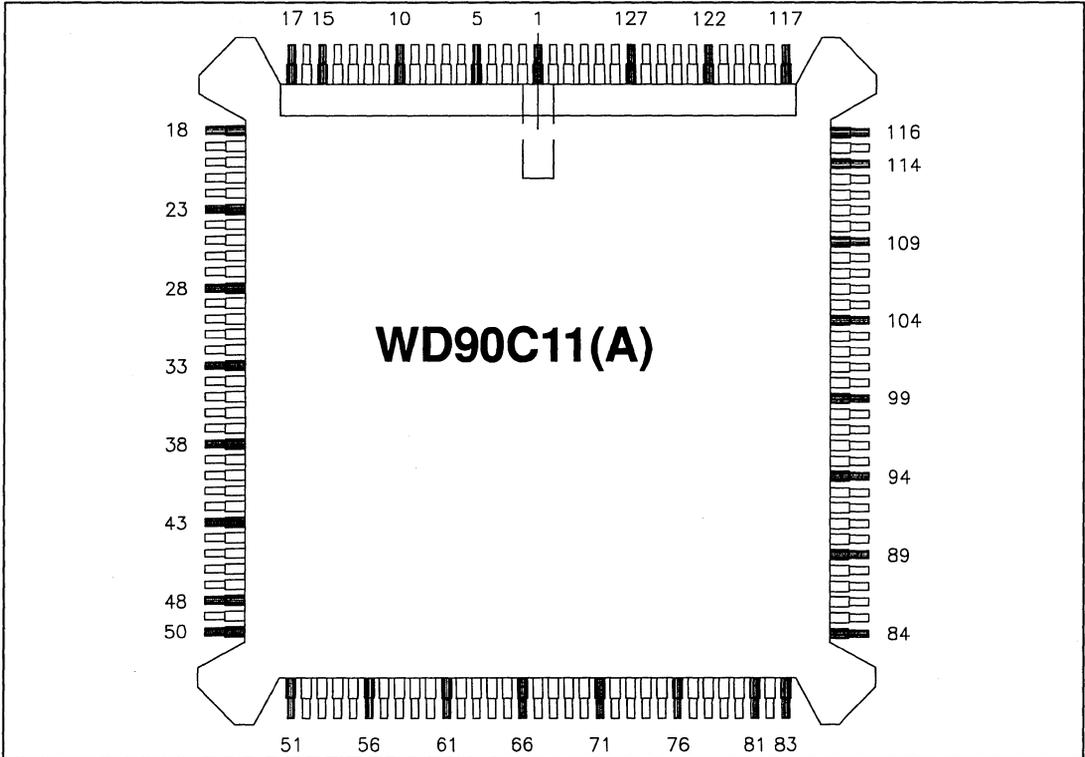

FIGURE 4-1. WD90C11(A) SIGNAL/PIN ASSIGNMENT
Figure 4-1 displays the WD90C11(A) pin layout. The following table provides a signal listing for the 132-pin WD90C11(A) package. The signals are grouped according to their application and described in Table 4-2.